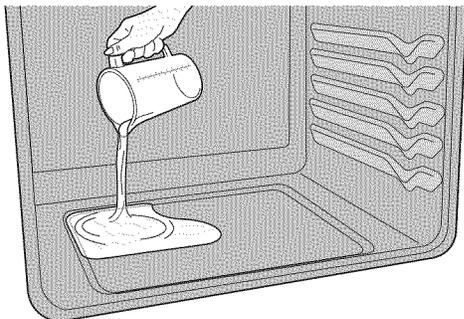

Figure 38: Add 8 ounces of distilled water
3. Pour 8 oz (235 ml) distilled or filtered water onto the oven bottom (See Figure 38). Close the oven door.